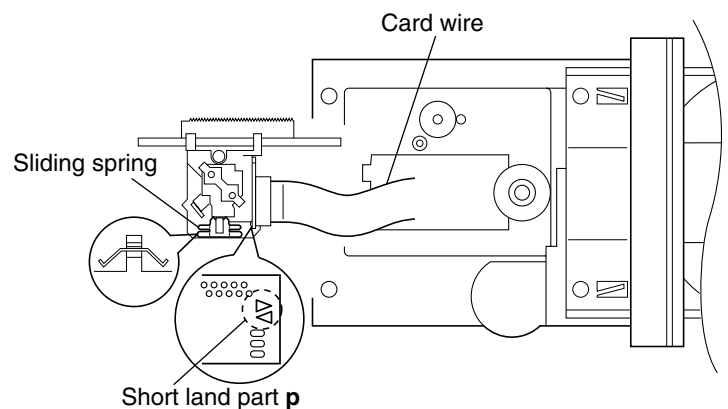

Fig.36
**[Caution]** • Be sure to solder the short land part **p** on the CD/Video pickup unit before disconnecting the card wire from the CD/Video pickup unit (see Fig. 36).
**[Note]** • Removing the CD/Video pickup unit involves the removal of the sliding spring. In the assembly, be sure to attach the spring in the correct orientation before attaching the CD/Video pickup unit (see Fig. 36).